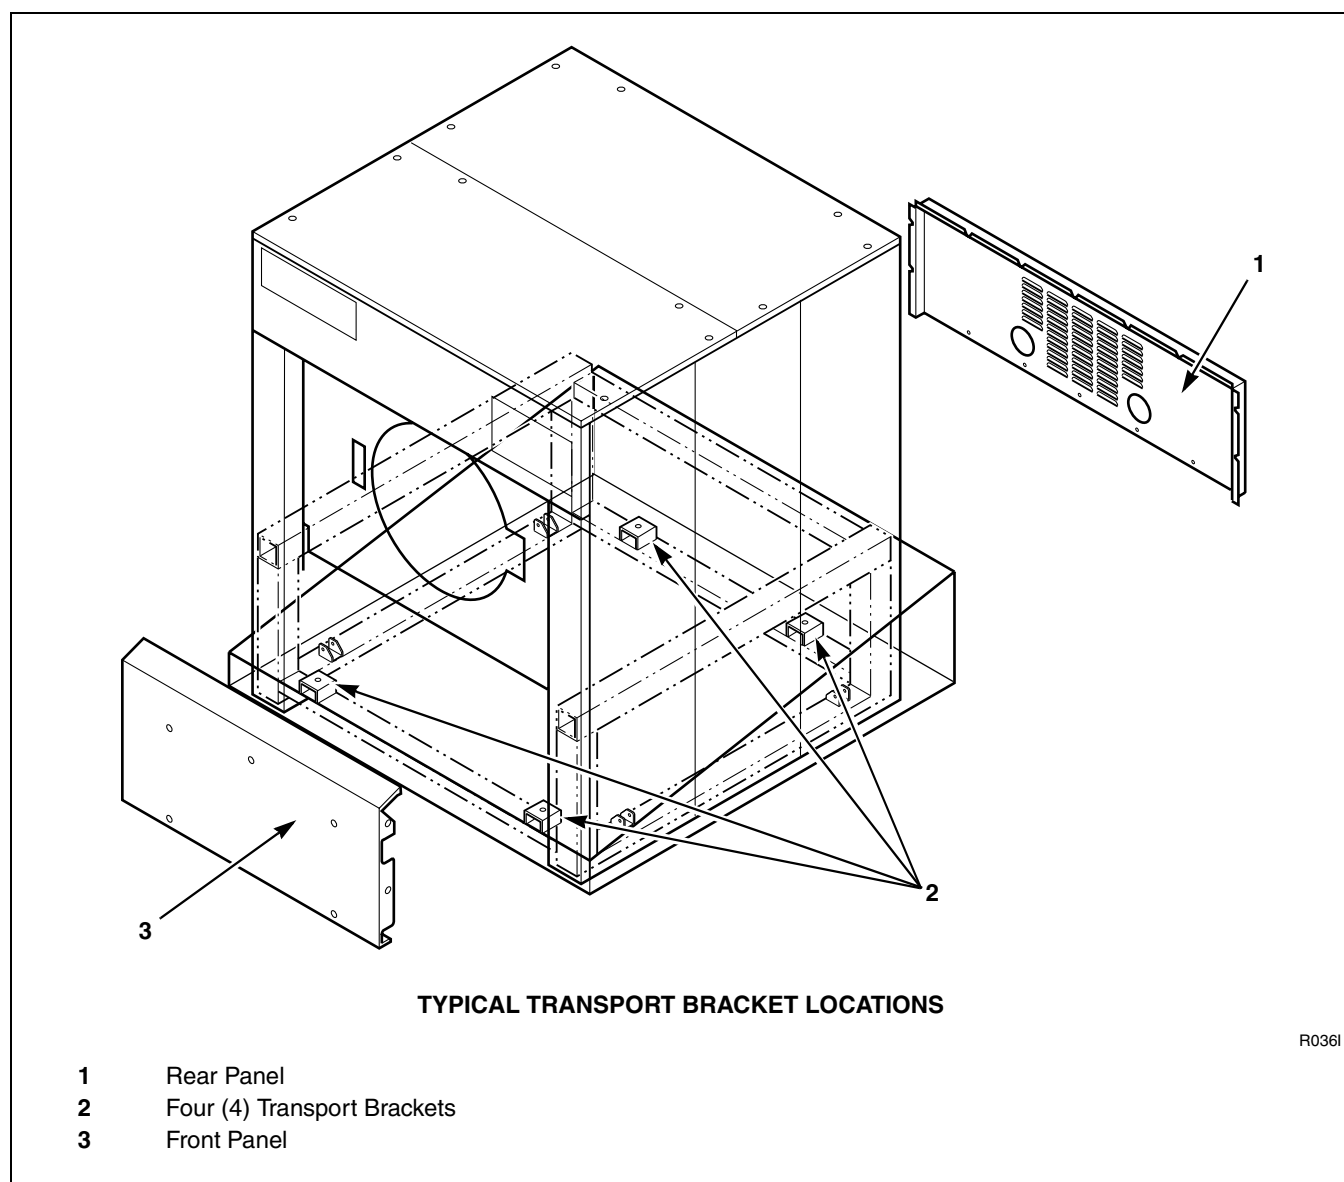

Figure 13
9. Remove the four red transport brackets used to secure the washer-extractor during shipping. Refer to *Figure 13*.